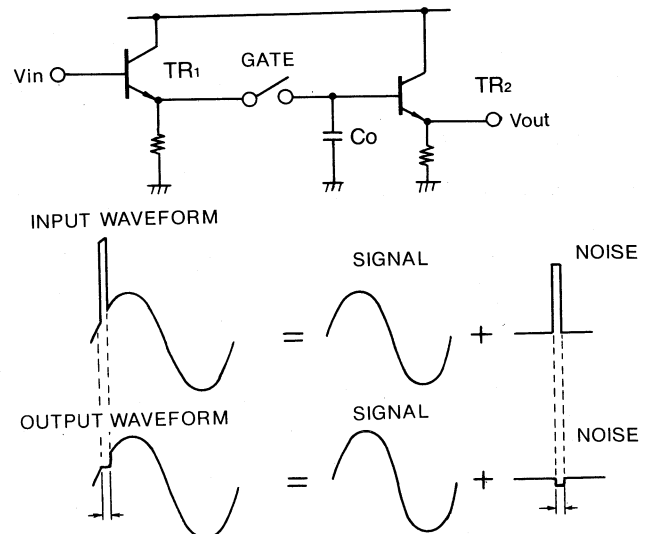

Fig. 17 Basic Operation
As shown in the Fig. 17, the gate circuit and capacitor C_o remove the pulse-type noise, as follows:
3. After the noise pulse passes the gate input, the gate closes, and allows the signal once again to reach C_o . C_o continues to track the output signal (V_{out}), but as shown in Fig. 17, the noise pulse is suppressed.